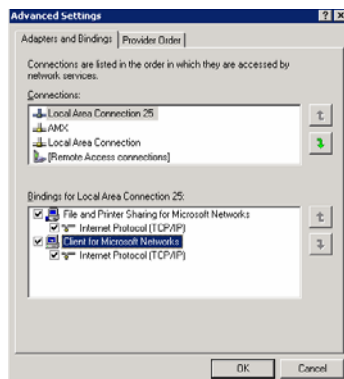
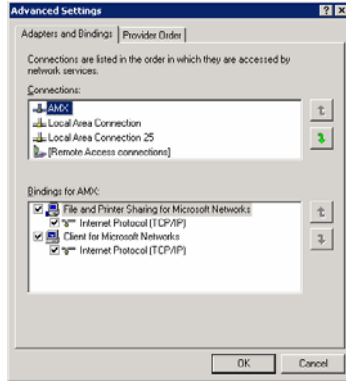

FIG. 113 Advanced Settings window
FIG. 114 Moving the Local Area Connection
3. From the *Advanced* menu, select *Advanced Settings...* to open the *Advanced Settings* window (FIG. 113).
4. Under the *Adapters And Bindings* tab, the user needs to make sure the Local Area Connection is not at the top of the *Connections* list. If it is at the top of the list (FIG. 113), select it and use the *down* arrow to the right of the list to move it to the bottom of the list (FIG. 114).